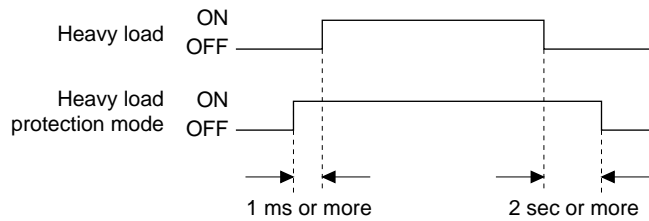

Fig. 3.3.2.1 Control timing for heavy load protection mode
- (1) During heavy load or when 2.2 V or below is detected by SVD, set it to heavy load protection mode. Unless it is necessary, be careful not to set the heavy load protection mode with the software.
- (2) Perform heavy load driving only after setting up at least 1 ms wait time through the software, after switching to the heavy load protection mode. (See Figure 3.3.2.1.)
- (3) When the heavy load protection mode is to canceled after completion of heavy load driving, set up at least 2 seconds wait time through the software. (See Figure 3.3.2.1.)